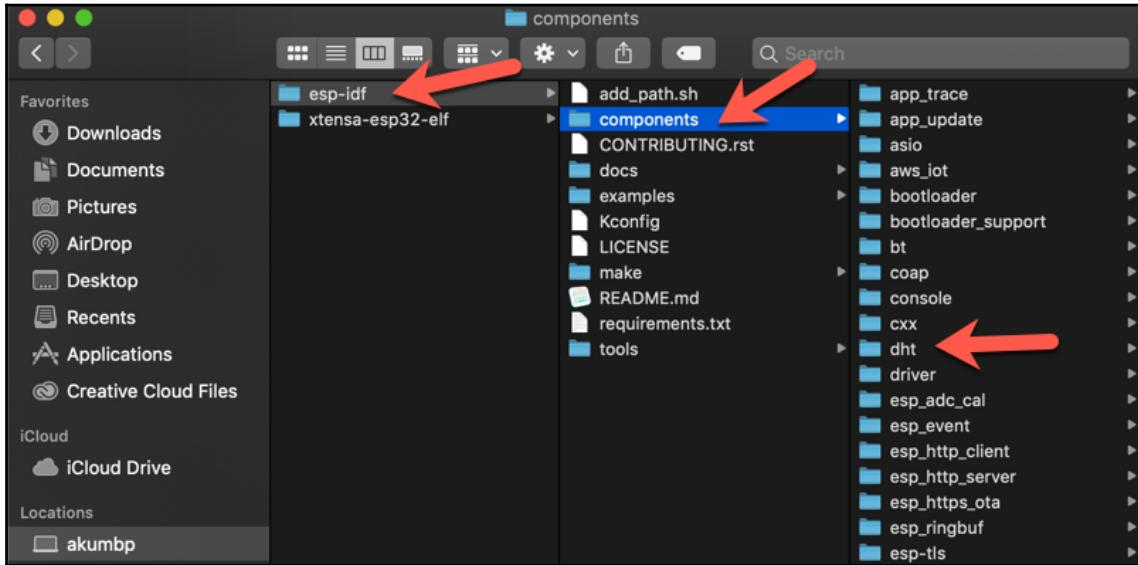

Figure 2-5: Adding the dht component on ESP-IDF
3. Copy the dht components folder from the esp-idf-lib project into your local esp-idf/components folder. You can see that my dht component has been copied in Figure 2-5: